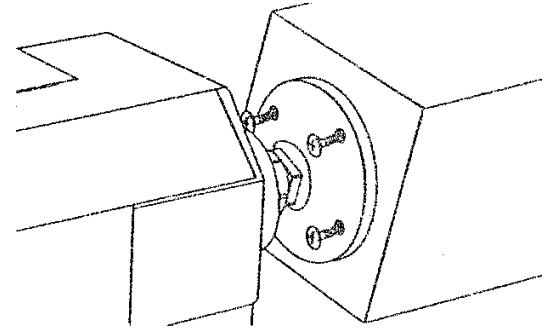

FIGURE 14
2. Center the faceplate on the workpiece and fix the workpiece to the faceplate by drilling wood screws through the mounting holes, see Fig.14 illustration. Make note of the length of the screws used as to not hit them when gouging out the center of the workpiece. If screws can't be drilled into your workpiece, glue a backing block to your workpiece, make sure the glue has completely cured before attempting to mount it to the faceplate and turning wood lathe On.